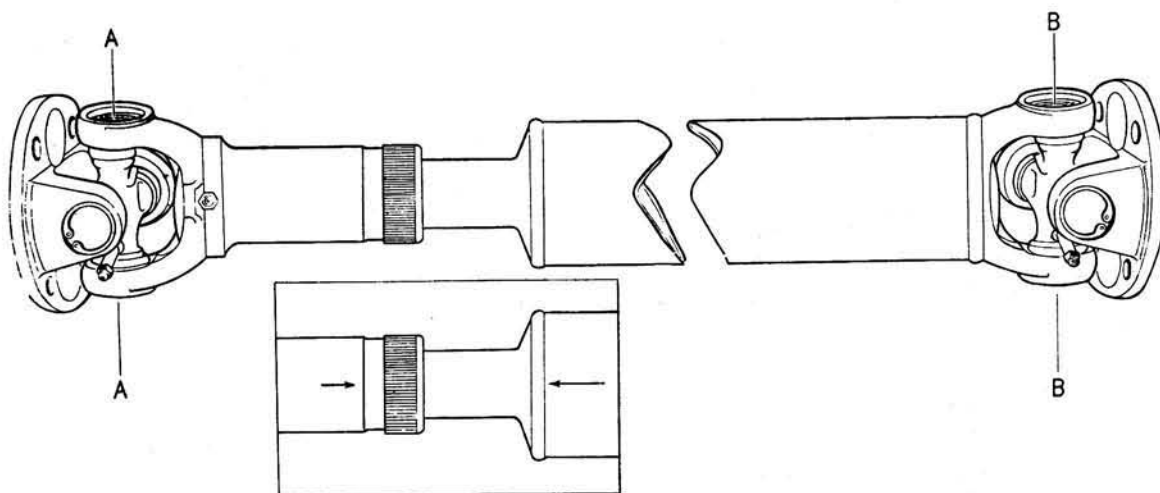

Fig.7.16. Alignment of yokes
- 8 Reassembly is the reverse of the dismantling procedure. However, first grease the splines and then assemble the sleeve yoke on the splines so that the fixed yoke is aligned with the fixed yoke on the shaft, arrows are stamped on the two parts to facilitate alignment (see Fig.7.16).
the bearings and snap rings in the same manner as described above. It is essential that the sliding joint is refitted with its fixed yoke in line with the fixed yoke at the end of the propeller shaft; arrows are stamped on the two items to facilitate alignment (see Fig. 7.16).